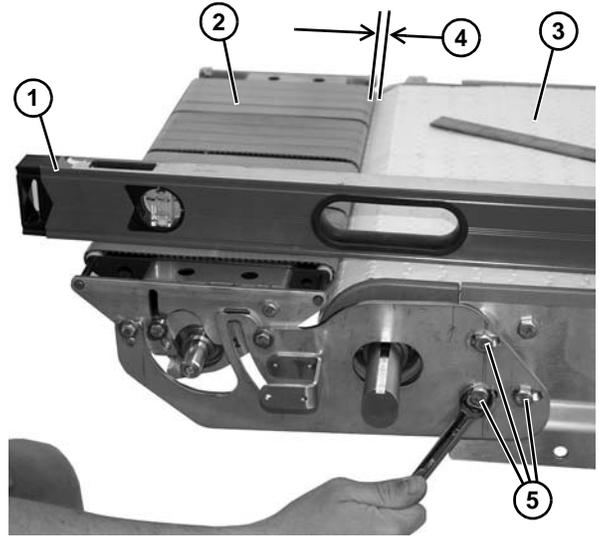

Figure 43
- To adjust location, place level (**Figure 43, item 1**) or straight edge to level power transfer assembly (**Figure 43, item 2**) with conveyor belt (**Figure 43, item 3**). Be certain that there is a minimum 1/8 - 1/4 in. distance (**Figure 43, item 4**) between power transfer and conveyor belt, and tighten three bolts (**Figure 43, item 5**) to secure position.